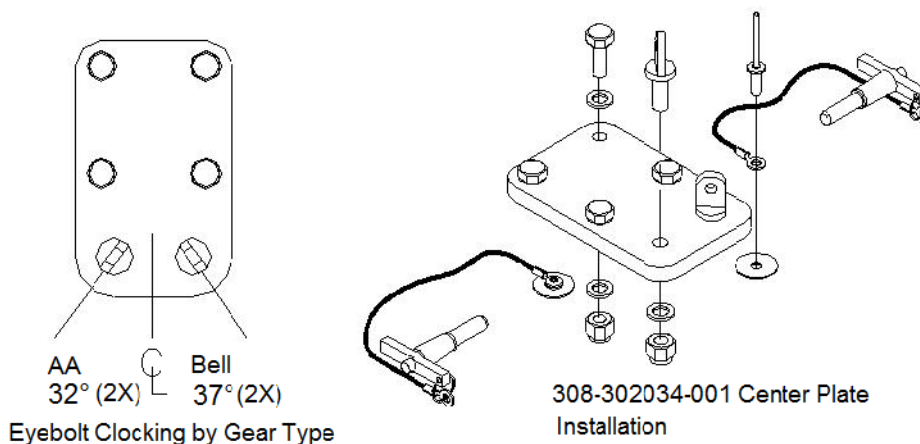

Figure 2: Center Plate Installation (Typical)
- c. Install lanyard with 732 Sealant on pop rivet and backup washer as shown in Figure 2 (typical). Placement of rivet may vary and is not important as long as the quick release pin will fully engage in the brackets.
10. Discard six (6) quick release pins. Remove lanyard from split ring on pin if lanyard installation meets the criteria in Step 9.
11. Remove center plate by reaching inside tank and removing six (6) nuts, washers and bolt/eyebolts as shown in Figure 2.
15. Match drill tank to plate four (4) places using a ϕ 0.313 drill bit.
18. Install plate to tank with hardware supplied in kit as shown in Figure 2 with 732 Sealant.
19. Clock eyebolts as shown in Figure 2 for the specific landing gear configuration.